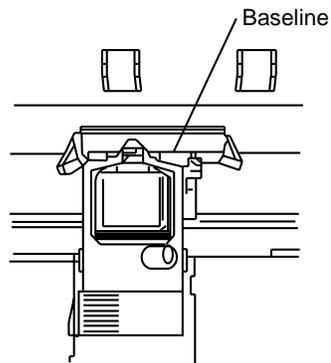

Figure 6-15. Model 602 TOF Indicator
- 11.13. The baseline for the Top of Form (TOF) on the paper is indicated by the red line on the clear plastic paper shield. See Figure 6-15 for the location of the red line.